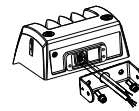

figure 5.1
5.1 Installed with trunnion mount(suitable for all power of this series) (suitable for 20W,35W,60W,80W,95W) (YM)
- Step 1: Take the lamp out of package;(figure 5.1)